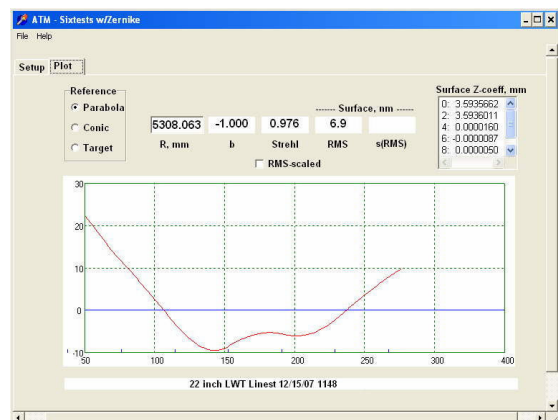

Fig. 10. Sixtests output.
- Click Surface getting – Fig. 10